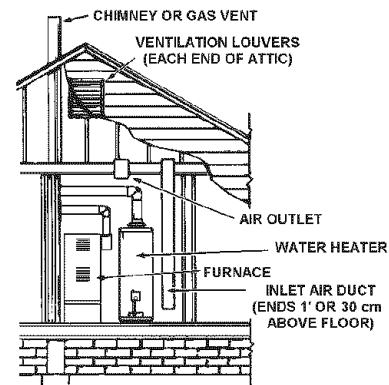

FIGURE 12.
- When directly communicating with the outdoors, each opening shall have a minimum free area of 1 square inch per 4,000 Btu per hour (5.5 cm²/kW) of total input rating of all equipment in the enclosure, see Figure 12.
- When communicating with the outdoors through vertical ducts, each opening shall have a minimum free area of 1 square inch per 4,000 BTU per hour (5.5 cm²/kW) of total input rating of all equipment in the enclosure, see Figure 12 on page 11.